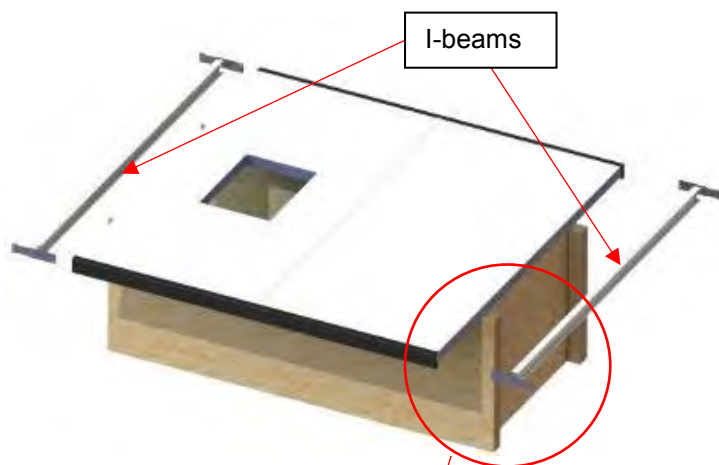

Figure 55
- 11) Install the I-Beams with the long I to C connection plates. Ensure the trimmed portion of the I to C connection plate faces toward the end of the cover (Figure 55 and Figure 56).